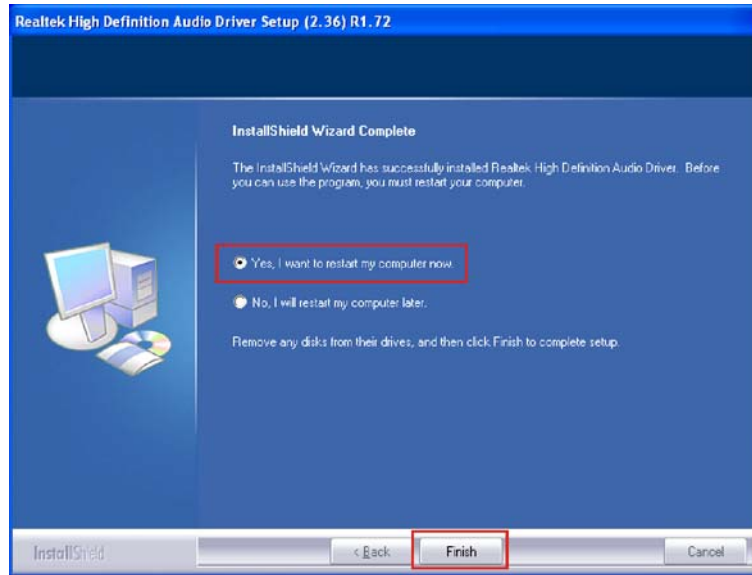

Figure 6-23: Installation Wizard Finished
Step 5: Don't click on any screens until the final screen appears (**Figure 6-23**).